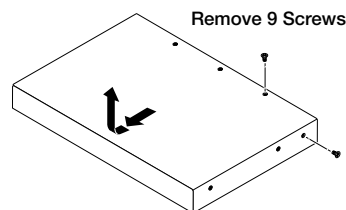

Figure 11. Opening the Switching Transmitter
2. Remove and retain the screws (nine screws, three on each side and three on top) securing the cover to the switching transmitter. Slide the cover forward slightly and lift it off the unit (see figure 11).